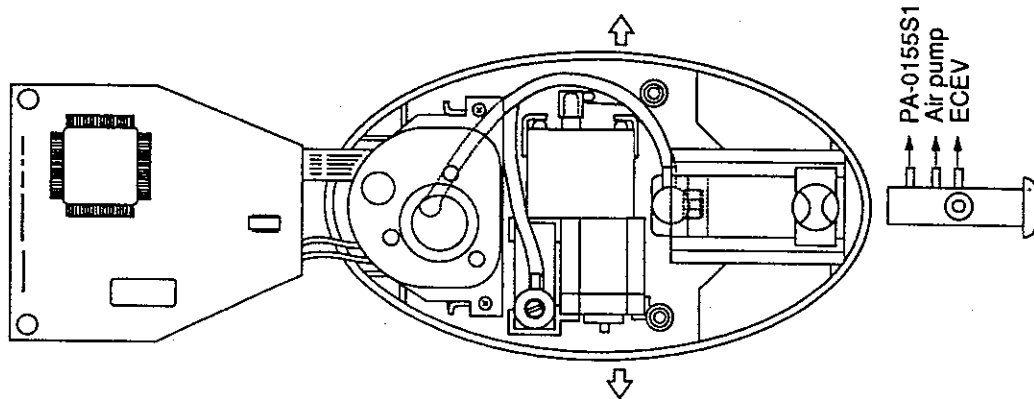

Fig. 11
- Step 3** See Fig. 11. Connect tube assembly to PA-0155S1, air pump, ECEV and cuff slide unit.